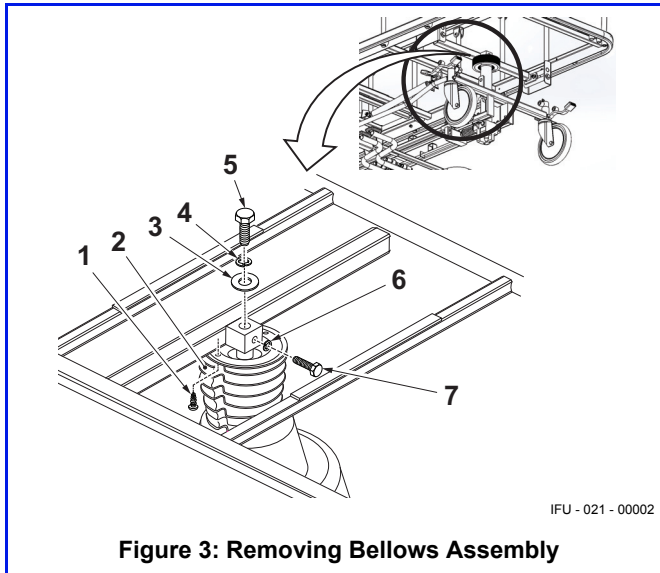

Figure 3: Removing Bellows Assembly
3. Using a #1 Phillips screwdriver, remove two Phillips #8 x 1/2" screws (p/n: H0012-01) that attach the upper ring of the Bellows (p/n: ST0024) to the frame. See Figure 3, Items 1, and 2.
4. Using a 9/16" open-end wrench, remove 3/8"-24 x 1-1/4" bolt (p/n: H0016-07), 3/8" split lock-washer (p/n: H0017-02), and 3/8" flat washer (p/n: HDW0001-01) in top of frame attaching the Hydraulic Cylinder (p/n: ST0008). See Figure 3, Items 3, 4, and 5.
split lock-washer (p/n: H0017-01) from side of block. See Figure 3, Items 6, and 7.